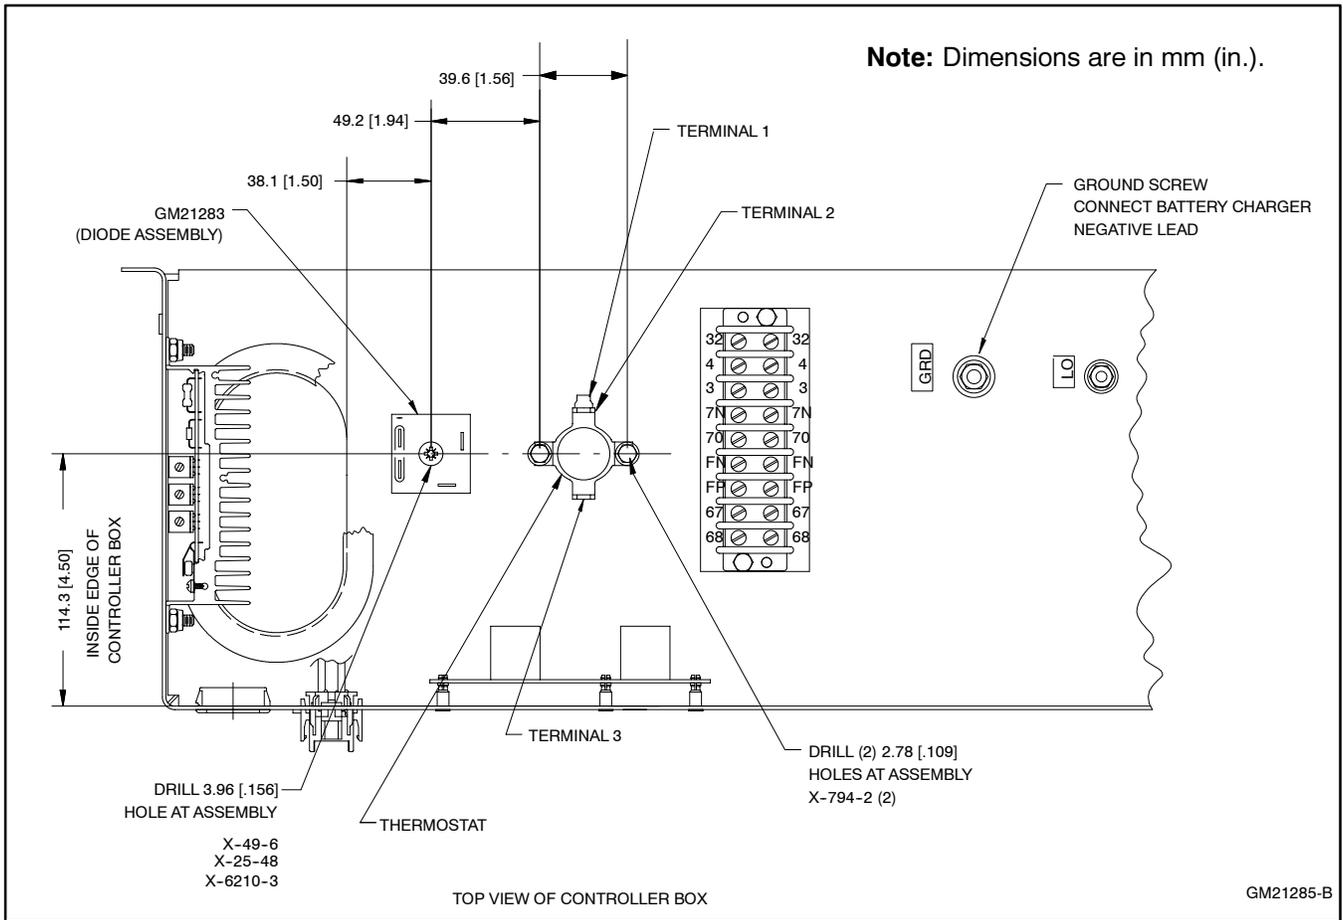

Figure 18 Recommended Thermostat and Diode Mounting Locations Inside the Controller Box
2. Mark and drill one 3.96 mm (0.156 in.) hole for the diode (if required) and two 2.78 mm (0.109 in.) holes in the bottom of the controller box at the locations shown in Figure 18. Use a dry brush or a vacuum cleaner to remove metal chips and dust from inside the controller box after drilling.
Note: The hole locations shown in Figure 18 are recommendations. Adjust the thermostat and diode locations inside the control housing to avoid interference with accessory leads connected to the terminal strip, if necessary. Verify that the heater leads are long enough to reach the thermostat and diode before drilling the holes.
3. Mount the diode, GM21283 (if required), using one #6-32 screw X-49-6, washer X-25-48, and nut X-6210-3. See Figure 18.
4. Mount the thermostat using two #8-18 self-tapping screws, X-794-2, through the two 2.78 mm (0.109 in.) holes. See Figure 18.